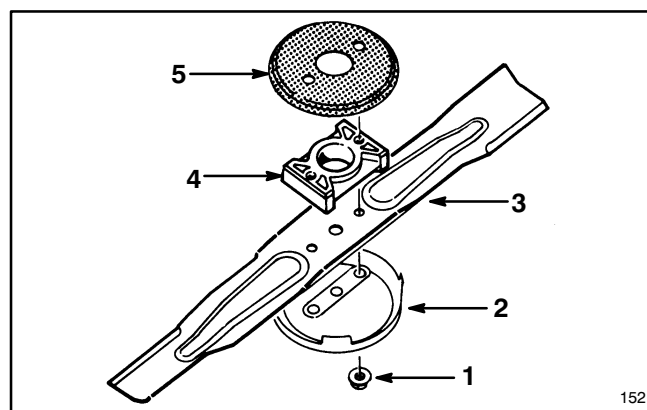

Figure 27
5. REMOVING BLADE—Grasp end of blade using a rag or thickly padded glove. Remove blade nuts, anti-scalp cup, blade, blade spacer and rotating screen (Fig. 27).